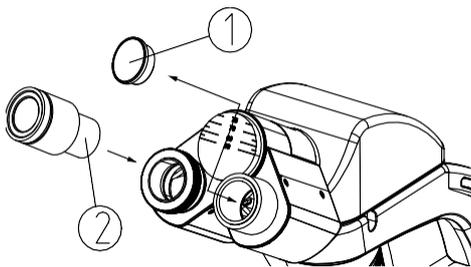

Fig.4
1. Take down the cover of eyepiece tube ①.
2. Insert the eyepiece ② into the eyepiece tube, until touch the bottom (See Fig. 4).